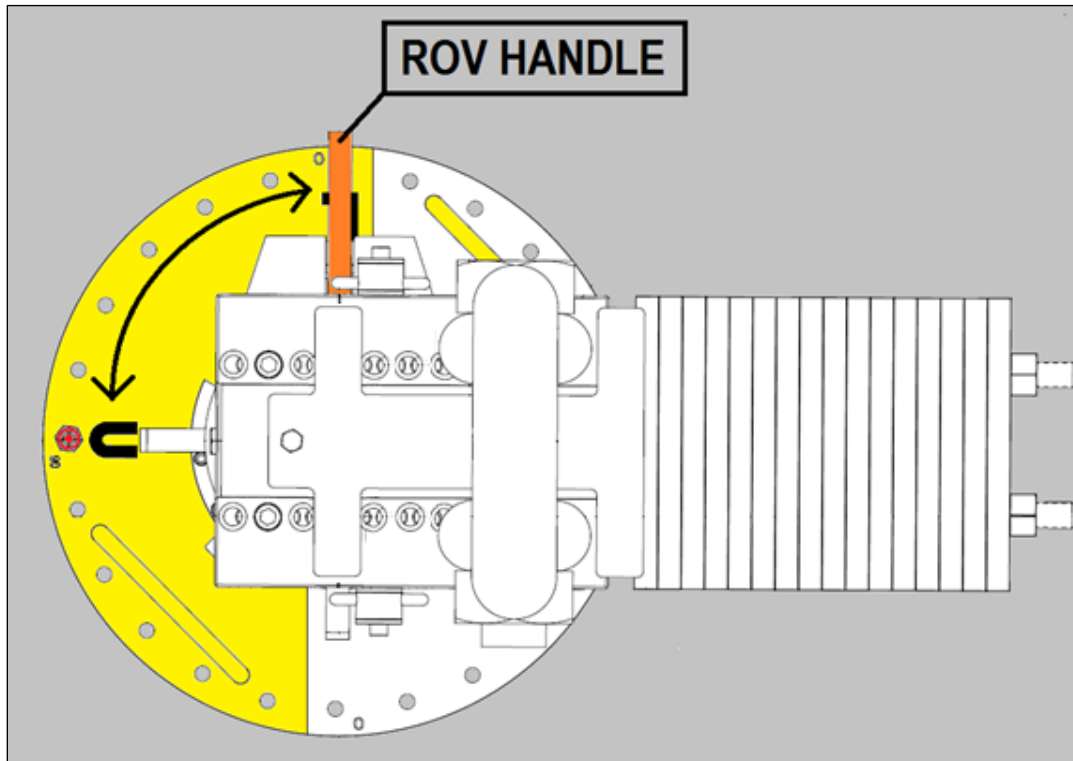

Figure 23: Rotation of ROV Handle from Lock to Unlock
5. Unlock the MTRT by pulling the ROV Handle away from the Main Body by about $\frac{1}{2}$ " and then rotating the ROV Handle around the Main Body by $\frac{1}{4}$ turn in the CCW direction (right) until it is automatically retained in place in the fully "Unlock" position. (See Figure 23).
- Verify the top of the ROV Handle Guide lines up with the bottom of the "Lock" groove on the Main Body when Locked and with the bottom of the "Unlock" groove when Unlocked. (See Figure 23)
1. Unlock the MTRT by pulling the ROV Handle away from the Main Body by about ½" and then rotating the ROV Handle around the Main Body by ¼ turn in the CCW direction, or right as seen from the side. until it is automatically retained in place in the fully "Unlocked" position. See Figure 23.